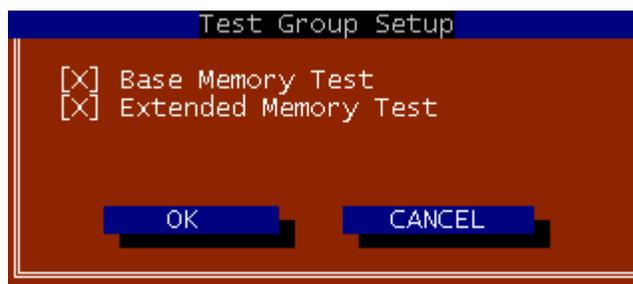

Fig 3.6
1. Click on Test_Group from the Config_Menu. Select the memory area to test from the as shown in Fig 3.6. Click < OK > to return to Main_menu. or